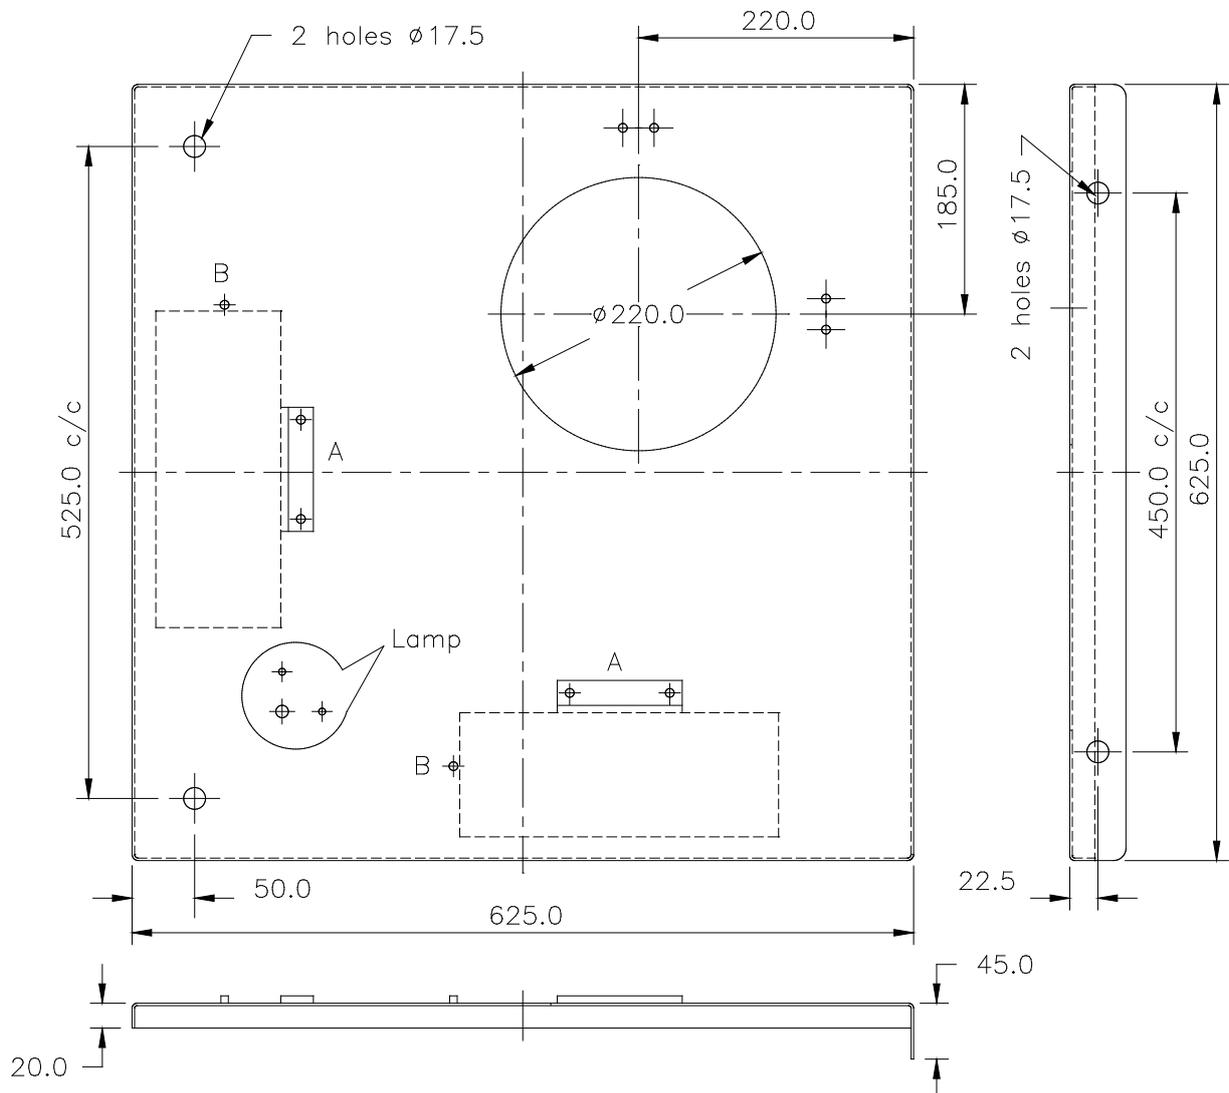
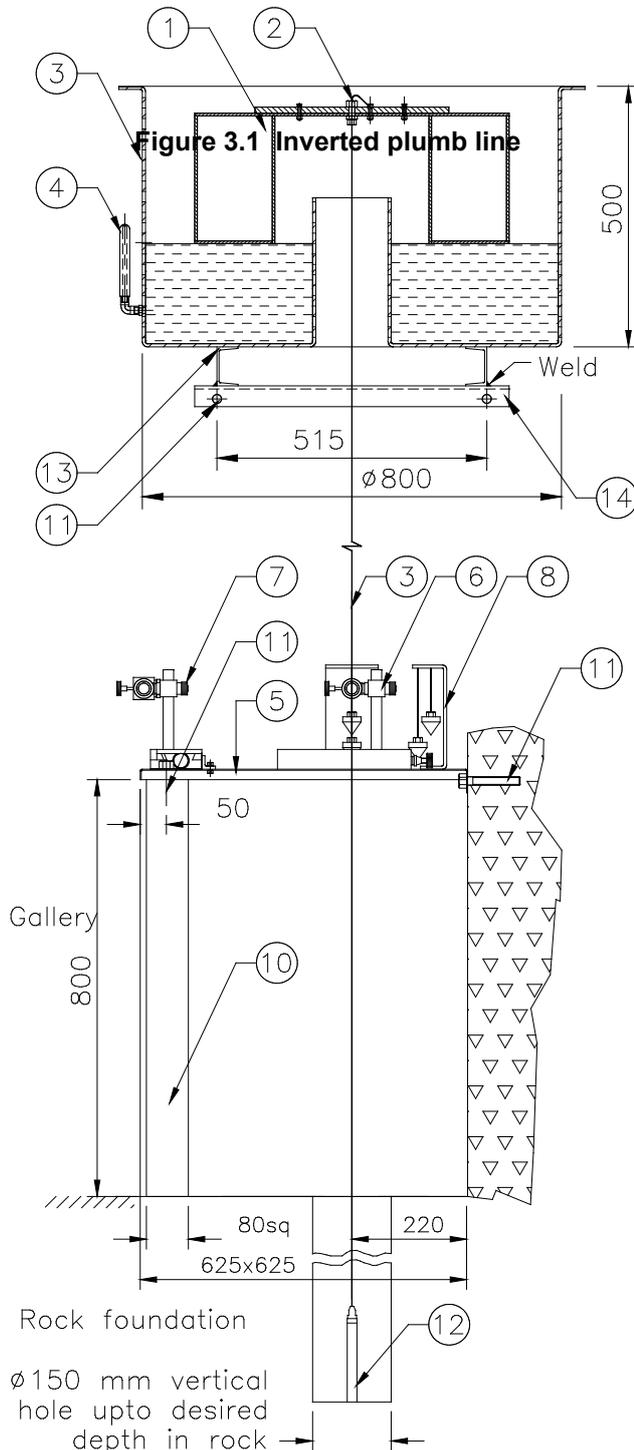
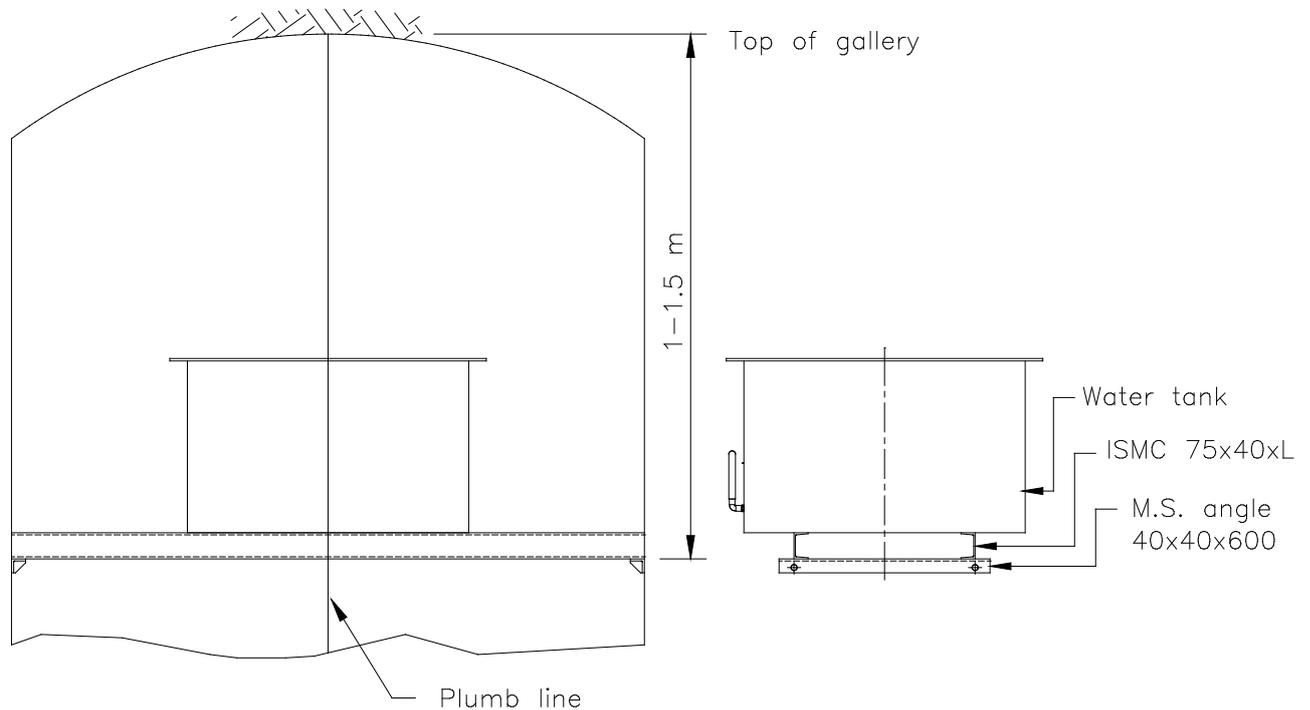

Figure 2-2
Figure 3-1
Figure 3-2
Figure 2-1 provides cross sectional layout of the normal plumb line. Figure 2-2 contains details of fixing observation table and mounting telescopes and reference plumbs.
The traveling telescopes are packed in a specially designed case. Position the two telescopes on the observation table such that the front edge butts with the telescope reference plate (A) and the left edge touches the reference pin (B). Refer to figure 2-2.
Figure 3.1 provides the general cross-sectional layout of the inverted plumb line. Figure 2.2 contains the details for fixing the observation table and mounting the telescopes and reference plumbs.
Complete the civil work as per figures 3-1 and 2-2. Proceed with installation of the plumb line as follows (for numbers in parenthesis, refer to figure 3-1):
Hang an ordinary plumb from the ceiling of the observation area such that its center aligns with the center of the drilled hole at the bottom of the observation area. Grout two base frames consisting of 40 x 40 mm angles, 600 mm long at the requisite height on the two sides of the observation area of the inverted plumb as shown in figure 3.2 on the next page. Use a 16 mm carbide tipped drill bit to drill four 12 cm deep holes at a distance of 515 mm from each other and mount the 40 x 40 mm x 600 mm long angles with the 4 no. of 5/8" BSW x 5" expansion fasteners provided for this purpose. Position the two 75 x 40 mm MS channels across the width of the observation area on the pre-grouted base frames parallel to each other as shown in figure 3.1. The length 'L' of the channels is determined by the width of the observation area. The channels may have to be cut to size at the location. Fix the channels to the base frames by welding.